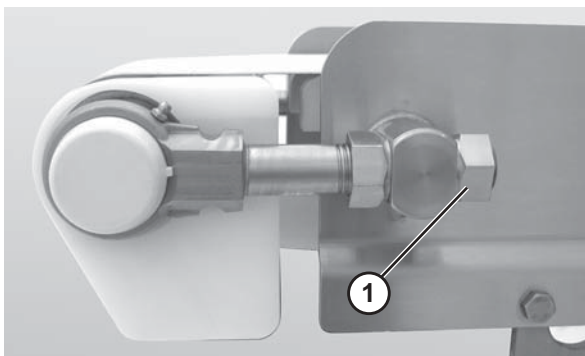

Figure 51
- Loosen the back nuts (**Figure 51, item 1**) on both sides of the idler tail shaft.